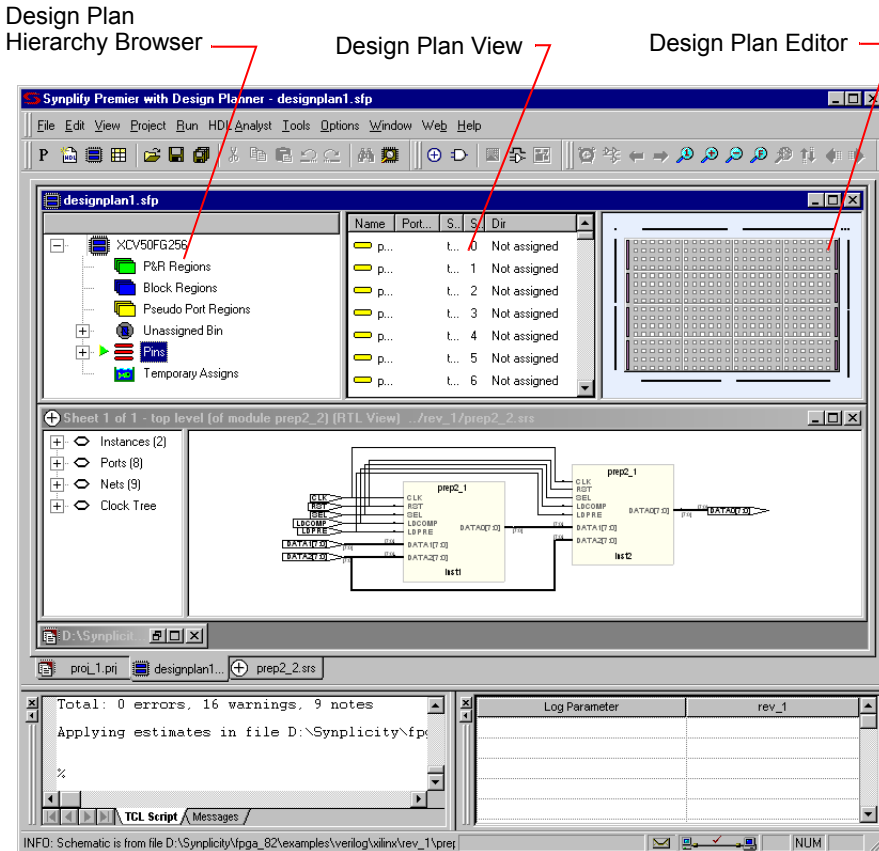

Figure 7-2: Design Planner
- If you click No, the Design Planner is displayed. See Figure 7-2 on page 7-4.